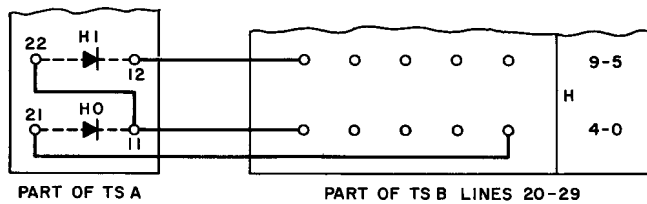

Fig. 7 - One-Way Nonsequential Hunting Group Consisting of Station Lines 20, 24, and 29
2.09 One-way nonsequential hunting is provided by inserting H diodes between H terminals of the lines included in the group with the arrow on each diode pointing in the hunting direction desired (see Fig. 7). If line 20 is dialed and found busy, call will be completed indiscriminately to whichever of the other two lines is idle. If line 24 is dialed and found busy, call will be completed to line 29 if idle. If line 29 is dialed and found busy, call will be routed to busy tone.